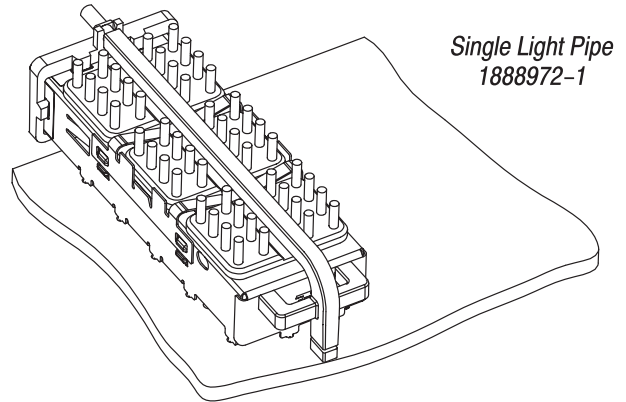

Figure 7
7. If applicable, mount the light pipe so that the pins on each arm fit inside the holes on the rear of the cage. This will require applying slight pressure on the arms to pinch the pins inward. The light pipe should be aligned with the length-wise slots in the heat sink, if a heat sink is installed. The single light pipe, 1888634-1, has a neck that snaps down into the light pipe bracket on cage assembly 1888668-1. The pc board end of the pipe should sit above the indicator LED on the board as shown in Figure 7.